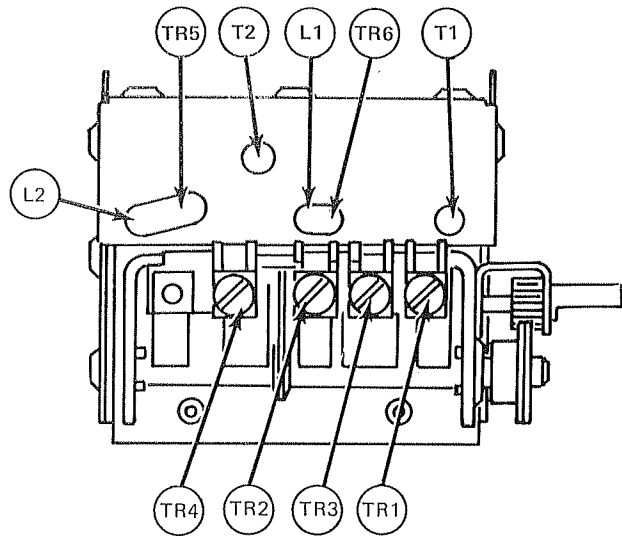

FIGURE 6
6. Refer to schematics and pictorials on Pages 33-34 and Figure 6 for test points and other location information.